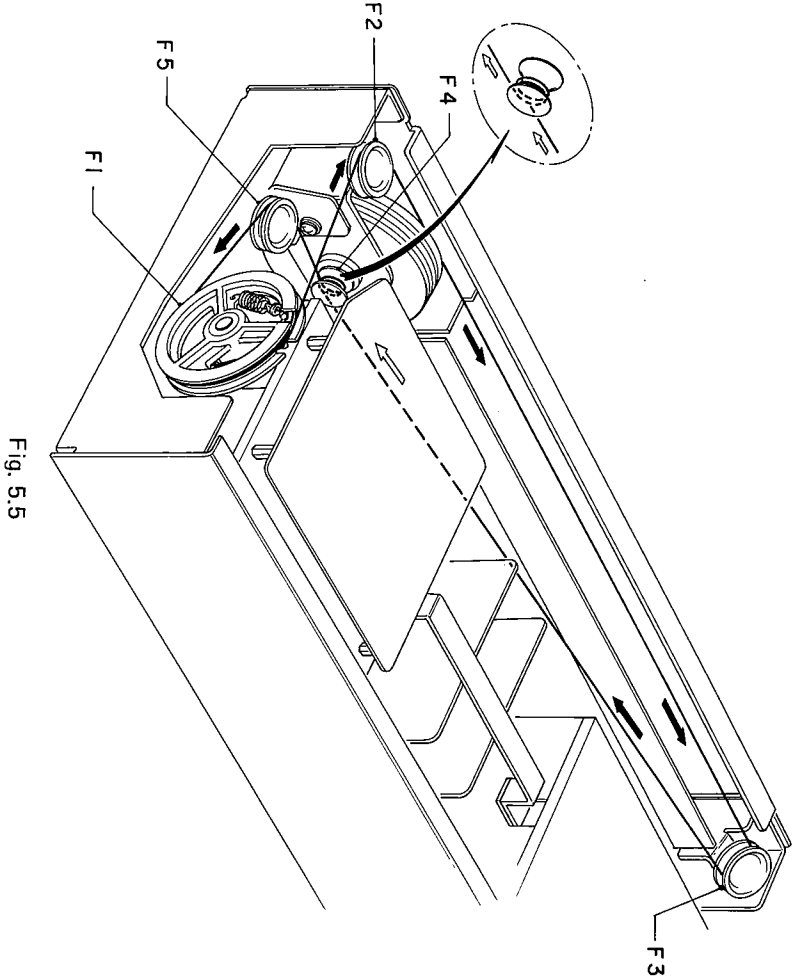

Fig. 5.5
- (2) Referring to Fig. 5.5, wind the thread two turns on F4 (Tuning Shaft) by way of F2 and F3 (Guide Pulleys) in the direction from the Flywheel side to the Frontend, and wind the thread 1-1/2 turns on F1 (Front-end Pulley 430) from the under side of F1 by way of F5 (Guide Pulley).